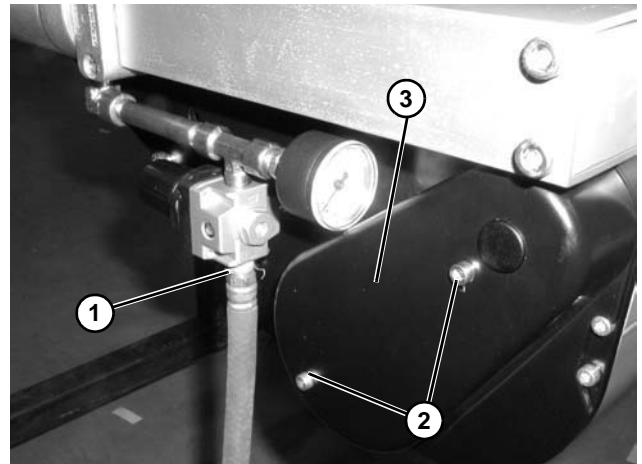

Figure 115
1. Remove air supply and remove hose (**Figure 115, item 1**) from center drive.
2. Remove screws (**Figure 115, item 2**) and guard (**Figure 115, item 3**).